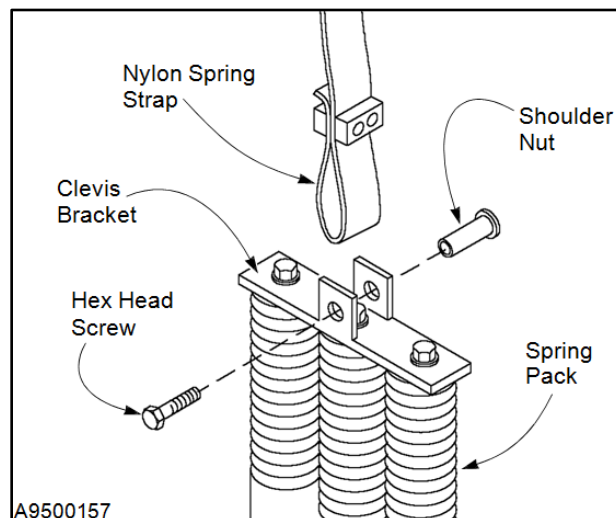

Figure 67
6. To release the strap from the spring pack, remove the hex head screw and the shoulder nut passing through the clevis bracket at the top of the spring pack. Save all hardware. (See Figure 67.)